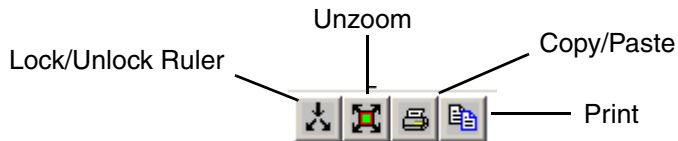

Figure 53. Controls for CD
The tool bar for the Cross Direction view is shown in Figure 53.
- **Enable/disable the Ruler Lock** - This button lets you lock the CD ruler so you can operate it independent of the Contour Map Cross Hair Control. When the button is in the unlocked position as shown in Figure 53, the CD Ruler is synchronized (moves) with the Contour Map Cross Hair Control. When the button is in the locked position, Figure 54, the CD Ruler does not move with the Contour Map Cross Hair Control, and can be operated independently.